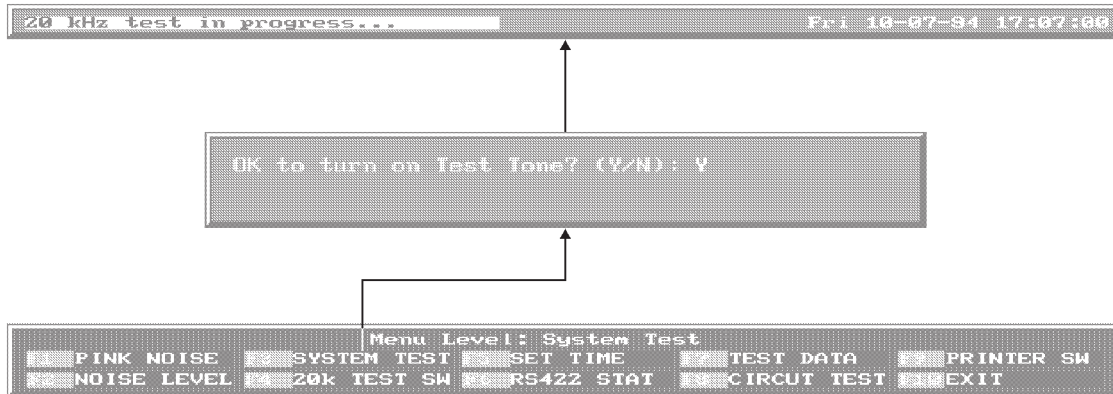

Figure 22 - System Test Menu
To perform a System Test, press the function key associated with the 'System Test' function in the 'System Test' menu. Since in a system test audible tones are introduced throughout the system, and the system becomes busy during the procedure, a confirmation window appears first asking 'OK to turn on Test Tone? (Y/N) :'. Type 'Y' to continue, or 'N' to abort the system set. As the System Test is progressing, the test frequency is indicated on the left end of the time bar (see figure 22, and figure 1, item 9).